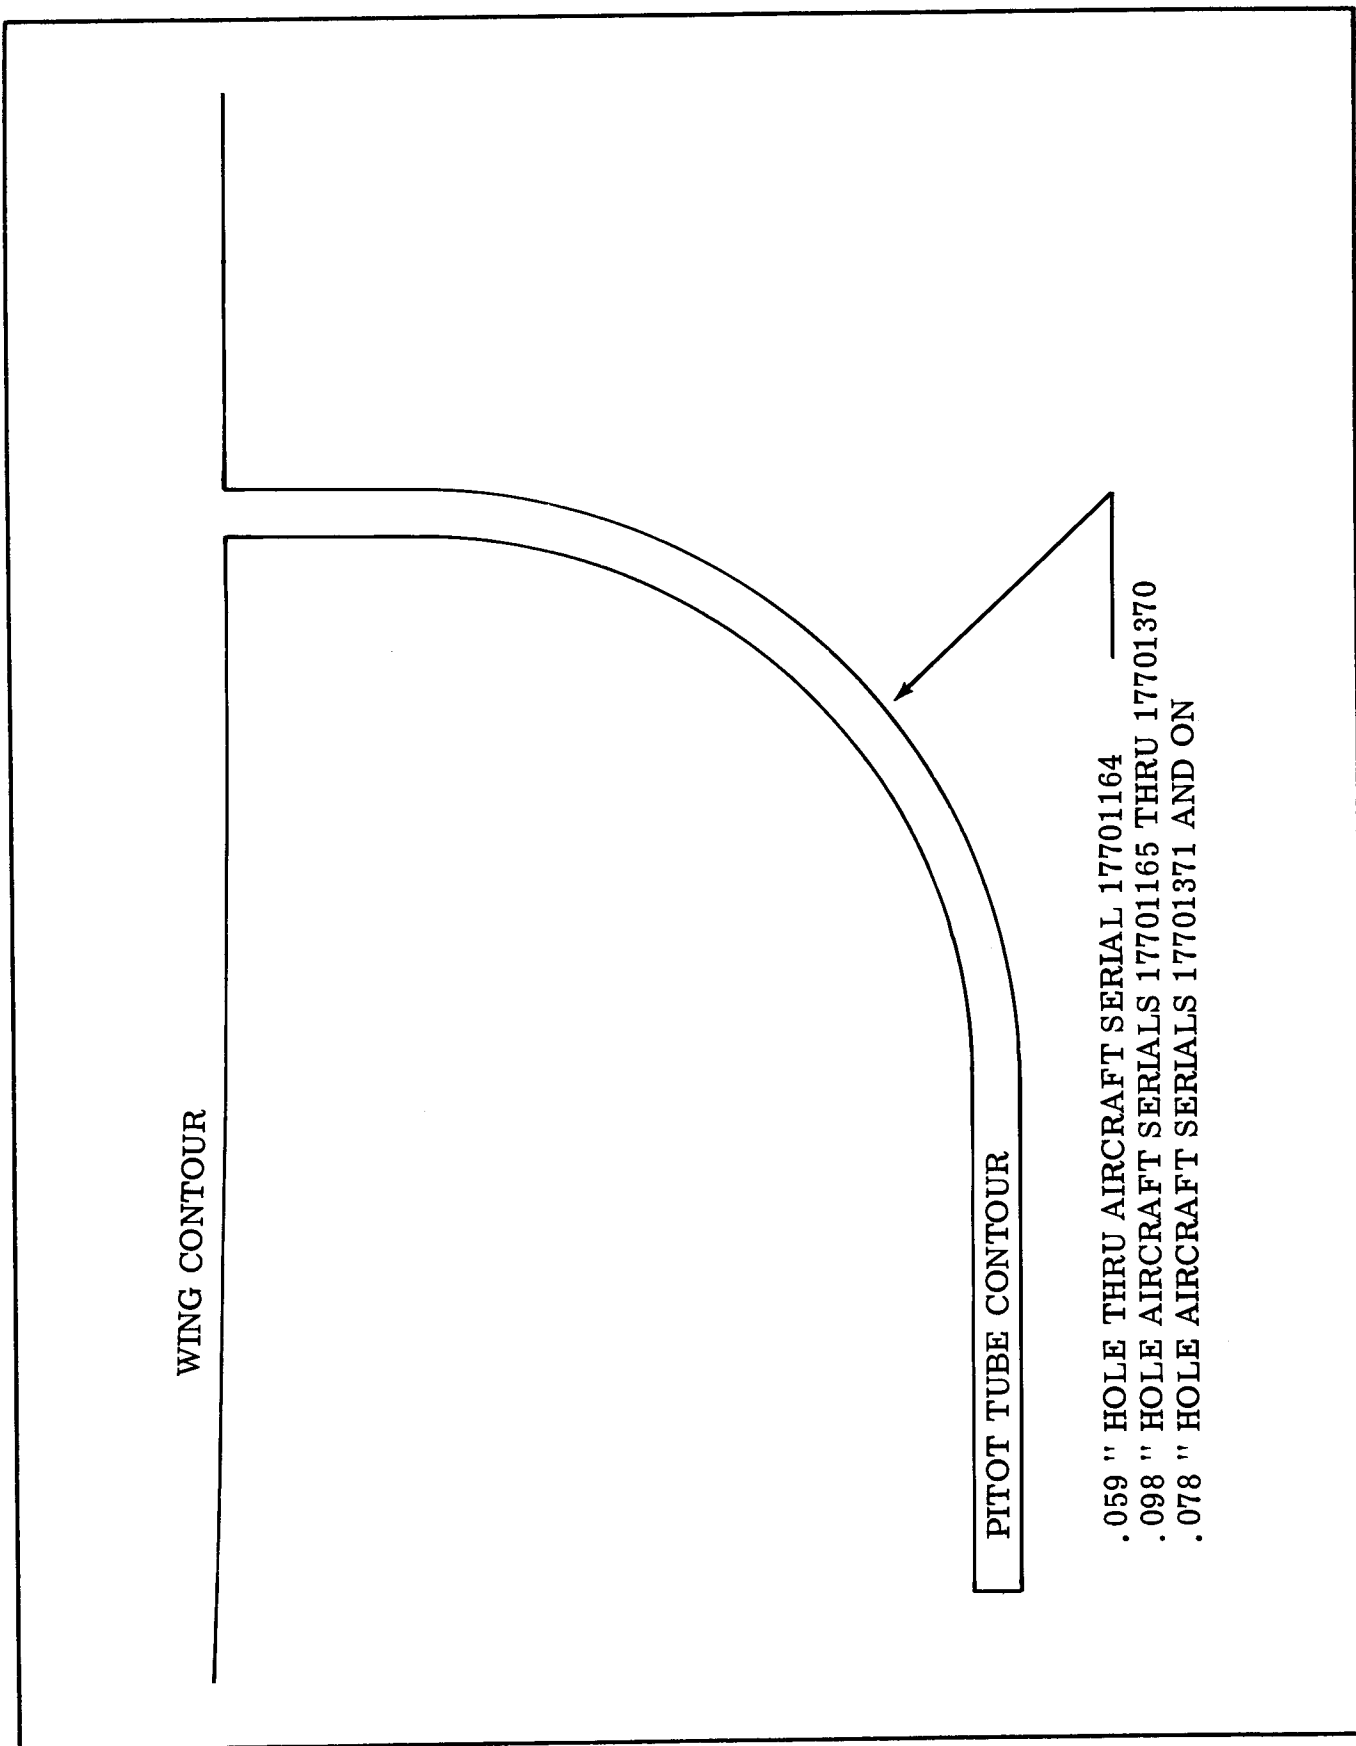

Figure 15-4. Pitot Tube Alignment Template
15-23. PITOT TUBE ALIGNMENT. (Refer to figure 15-2.) For correct airspeed indication pitot tube (10) must be properly aligned. Open end of tube must be perpendicular to longitudinal axis of aircraft. A template like the one shown in figure 15-4 will prove the most convenient means of checking alignment. Prior to using template, check that pitot tube parallels row of rivets just outboard of tube. A straightedge may be placed along row of rivets to check the alignment. The template fits over the wing leading edge and should conform to the illustration. The illustration has been drawn carefully to actual size and may be traced directly on a piece of carbon paper between the printed page and the template material, then trace contours.